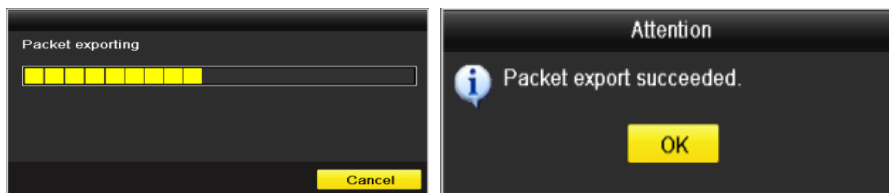

Figure 209 Packet Export Attention
5. After exporting is complete, click **OK** to finish the packet export, as shown in Figure 209.